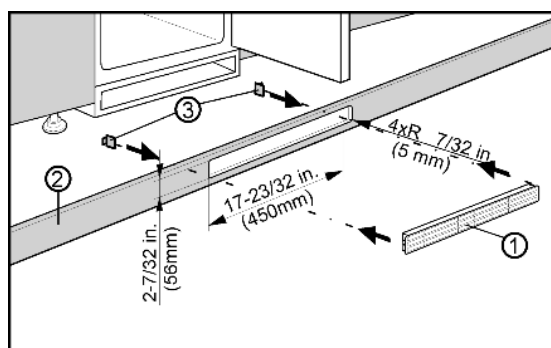

Fig. 7
The ventilation from below through the cabinet floor can be provided with the supplied ventilation grille *Fig. 7 (3)* or a ventilation opening of with a cross-sectional area of at least 31 in2 (200 cm2). If you are using the supplied ventilation grille *Fig. 7 (3)*, proceed as follows:
- Insert the ventilation grille *Fig. 7 (3)* into the cutout in the cabinet floor *Fig. 7 (1)*.